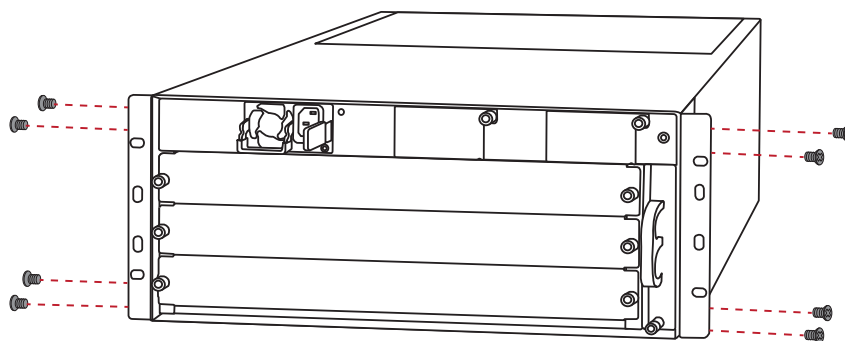

Figure 4-1: CS-6303R Rack-mounting Brackets
Step 2: Secure the brackets tightly on the Chassis Switch as shown in Figures 4-1 and 4-2.